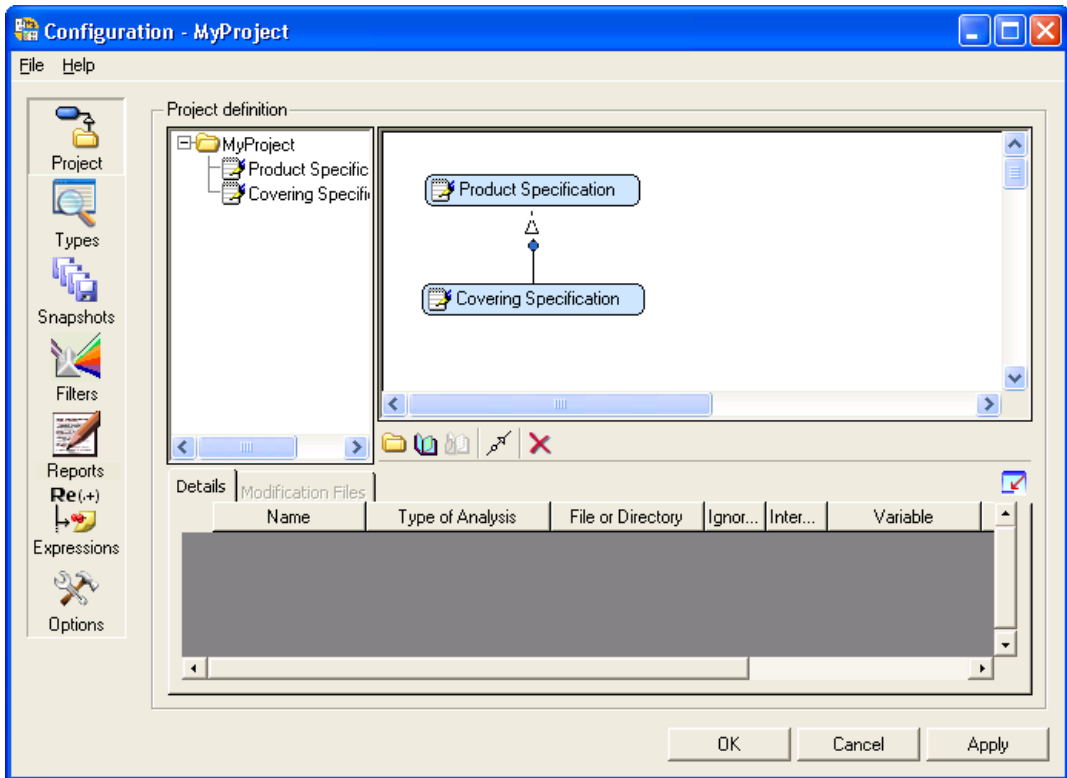

Figure 3-3. Covering Document in Project
- Click the **Add a cover** button. The cursor moves to the Traceability Description Zone. Click the **Covering Specification** document and then click the **Product Specification** document. An arrow is now visible between the two documents as shown in Figure 3-3. This arrow indicates that the Covering Specification document covers the Product Specification document.